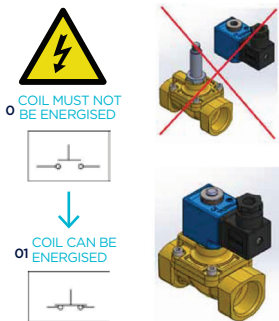

Figure 21. Warning about coil mounting.
**!** The coil should not run without tube. It means that it should run only when it is connected to the valve along with the tube and core. Otherwise, the conducting wire in the coil will burn and become dysfunctional within a short time. Figure 21 must be considered about this issue.